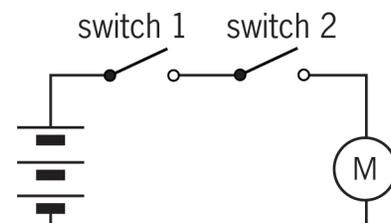
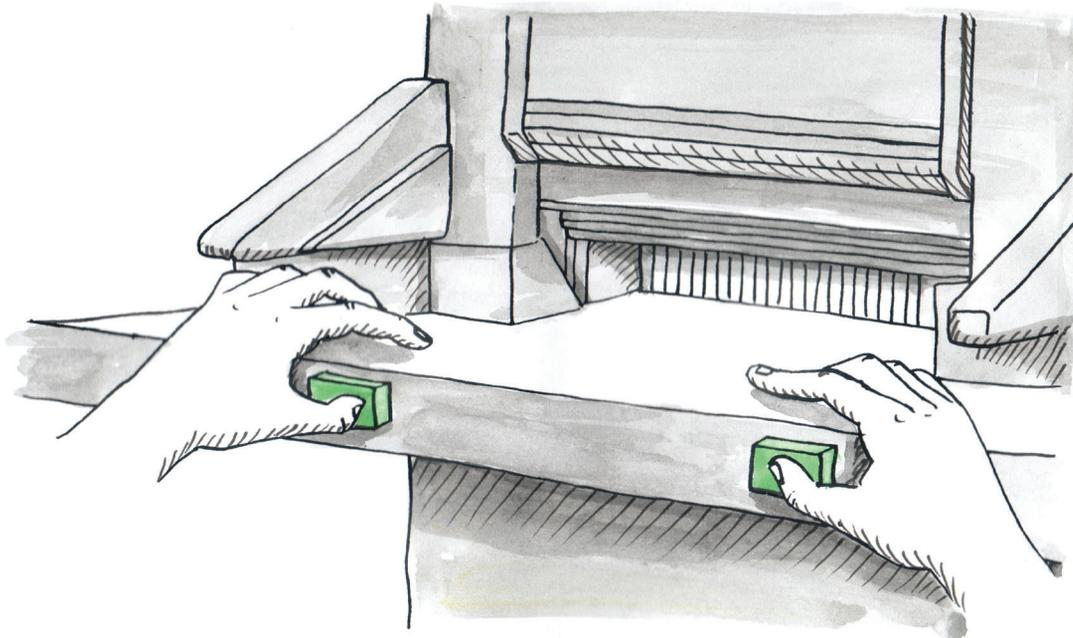

Figure 7: A circuit with AND-type control
Figure 8: An electric paper-cutting machine
The circuit in Figure 7 has AND-type control. Now let's see where people would use a circuit such as this one. Figure 8 shows an electric paper-cutting machine that is used to cut many sheets of paper simultaneously. An electric motor turns gears that press the blade of the machine down to cut the paper.
Look back at Figure 8, showing the electric paper-cutting machine. The operator has to press both switches to make the cutting blade move. So the circuit controlling the motor uses AND-type control.
2. Often designers look at circuits that have already been designed, to see whether any of those circuits will do the job. Look at Figures 7, 9 and 11 again. Which of these circuits will work? [1]